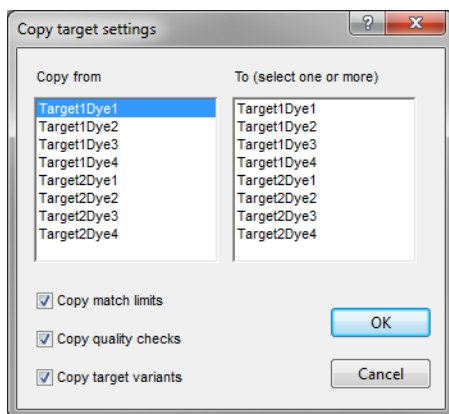

Figure 3.28: The *Copy target settings* dialog box.
13.2 Press the <Copy settings> button to call the *Copy target settings* dialog box (see Figure 3.28).